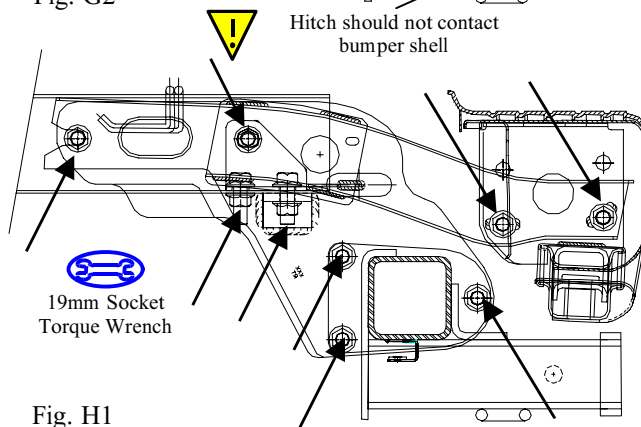

Fig. H1
- ⚠ 1. Tighten all 18 M12 bolts to 85 lbf☑t (115 N☑m.). (Fig. H1)